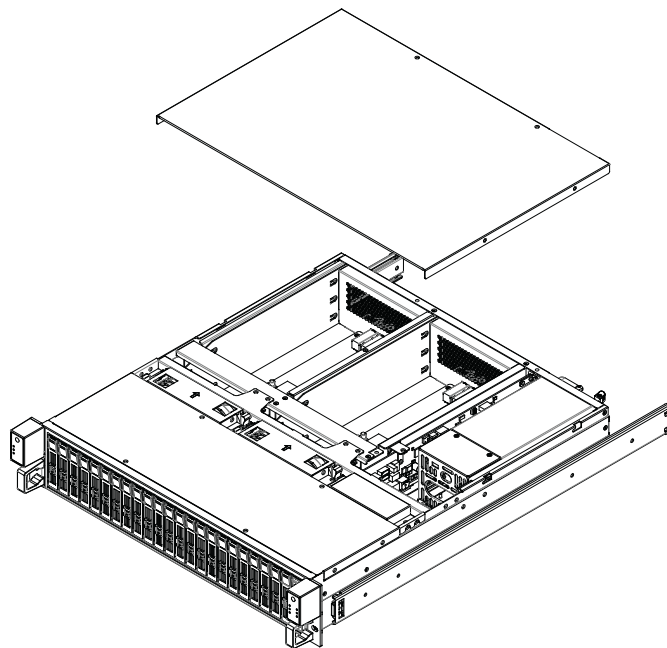

Figure 2.1 Rear top cover removal/ 移除后顶盖 / 移除後上蓋
2. Slide the rear top cover backwards and then lift upwards to remove it (see Figure 2.1).